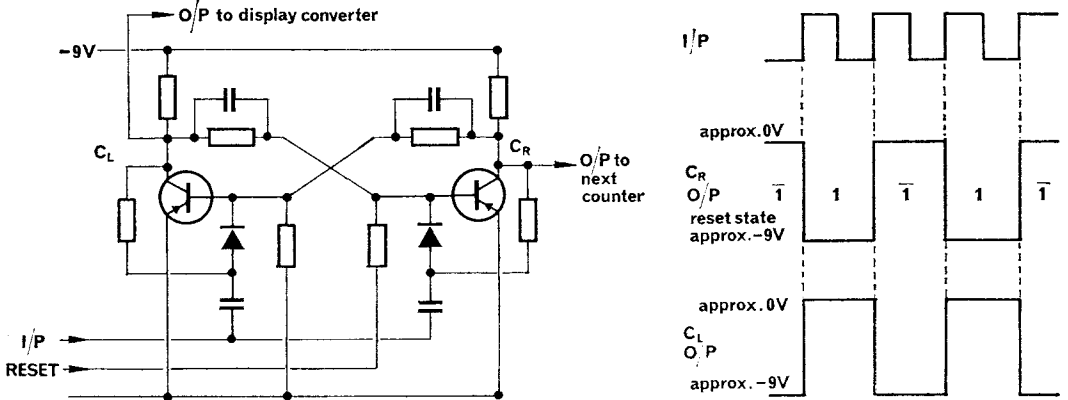

Fig. 3. Eccles-Jordan bistable as a binary counter
5. **Bistable as a binary counter.** The basic circuit action of an Eccles-Jordan bistable circuit was dealt with in AP 3302 (Pt. 3, p127). Inclusion of the two diodes in the base input leads means that the circuit will only change states on a positive going edge of the trigger input, i.e., once per cycle (see figure 3). Thus for two cycles of input the bistable will change states twice, i.e., from $\bar{1}$ to 1 and then from 1 to $\bar{1}$, producing one cycle of output. This means that the circuit is dividing or counting by two and it is therefore called a binary counter. Before the count begins all bistables are 'reset' by momentarily open circuiting the reset line (normally earthed). This causes a negative voltage at the base of the right hand transistor causing it to conduct and its collector